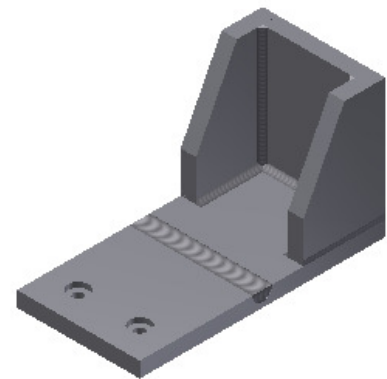

Figure Step 6
Step 6 Your weldment should now appear as shown in the figure. (Figure Step 6)